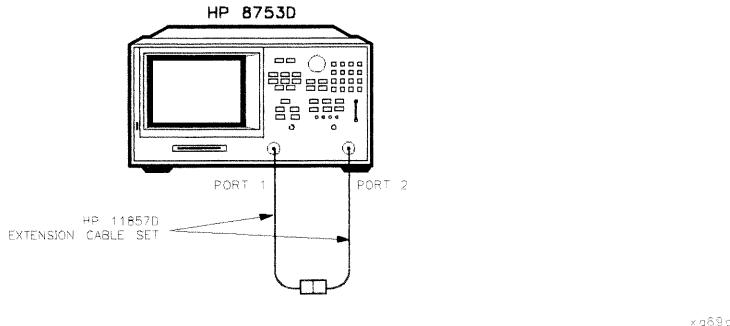

Figure 2-3. Transmission Calibration Setup
26. Connect the test port cables as shown Figure 2-3.